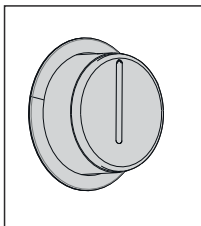

Fig. 16: Pop out on
- When cooking is finished, turn the switch to the off (top) position and press it inwards (Fig. 16).